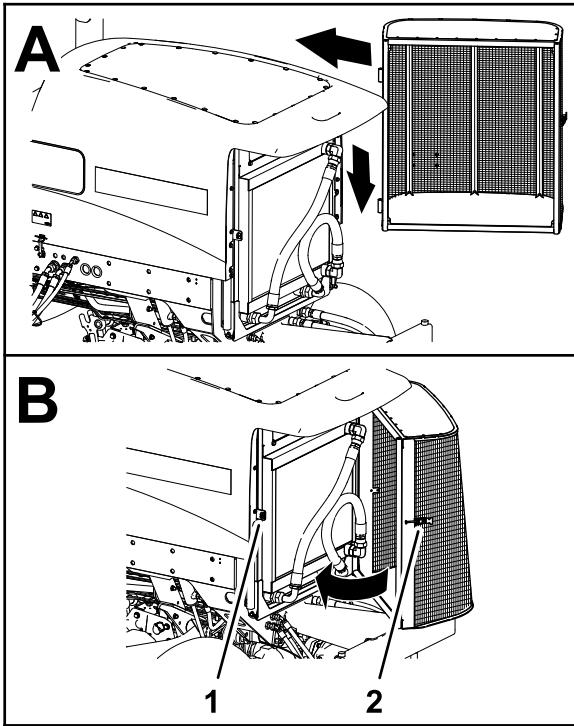

Figure 147
8. Assemble the screen onto the hinge pins (Figure 147).